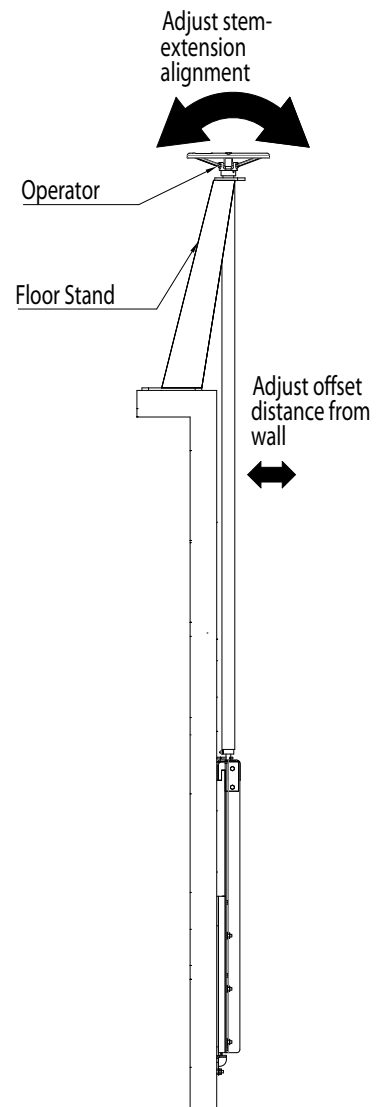

Figure 11
4. Position the floor stand and the operator. Engage the shaft of the stem extension with the operator. Make sure that the stem extension is perfectly aligned and parallel to the wall surface, adjusting the offset if necessary of the stem-guides' HMWPE inserts (see Figure 11). Once, the stem extension is perfectly aligned, install the floor stand (drill and tighten anchor bolts).